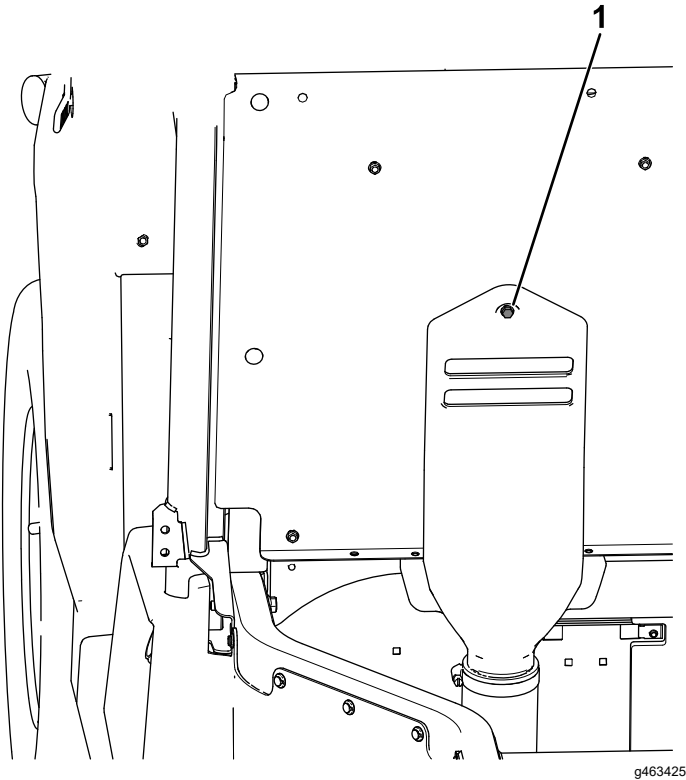

Figure 28
- F. Insert the captive bolt attached to the CVT-intake hood into the hole shown on the seat panel (Figure 28).